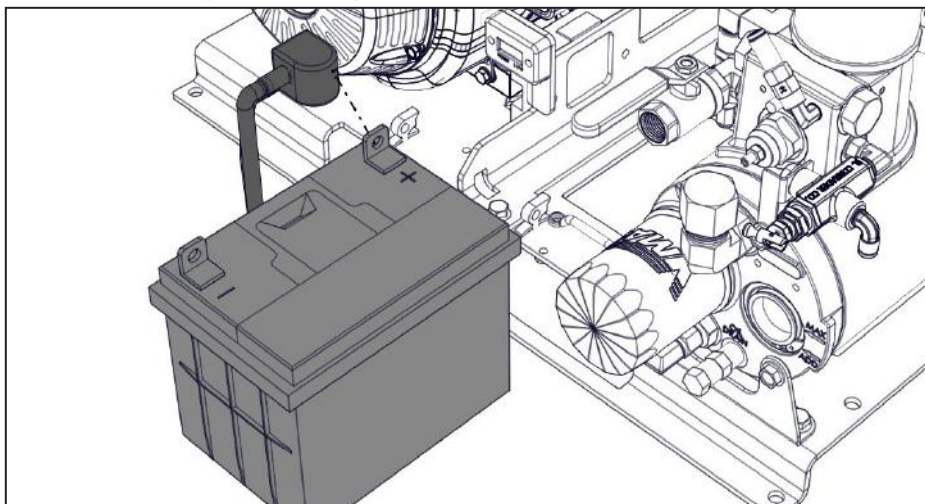

Figure 65 — Battery removal
- ☐ Pull the battery out of the front of the unit, once it is clear, disconnect the positive battery terminal (Figure 65).